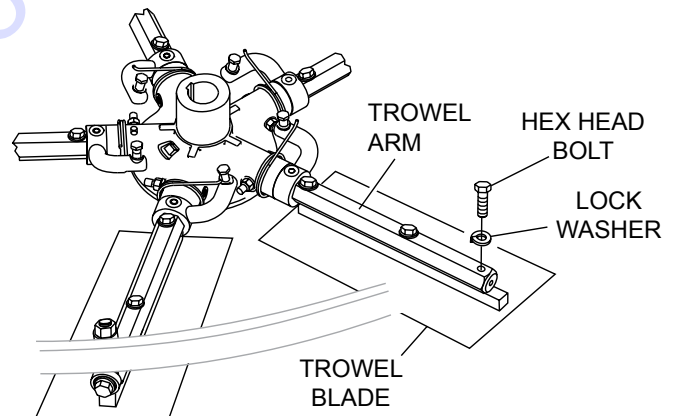

Figure 37. Trowel Blade Removal
Remove the trowel blades by removing the three hex head bolts (Figure 37) from the trowel arm. Set blades aside.
5. Examine the bronze trowel arm bushing (Figure 37), and clean if necessary. Replace bushing if out-of-round or worn.